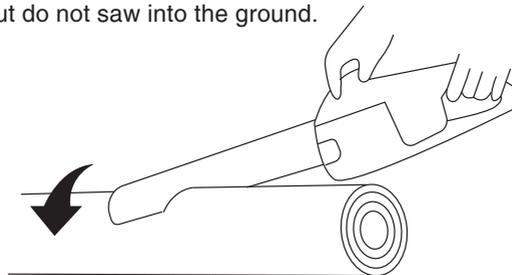

Figure 7
- When the entire length of the log is supported on the ground or another surface, perform a lower cut (from the underside upward) instead. (See Figure 7.)